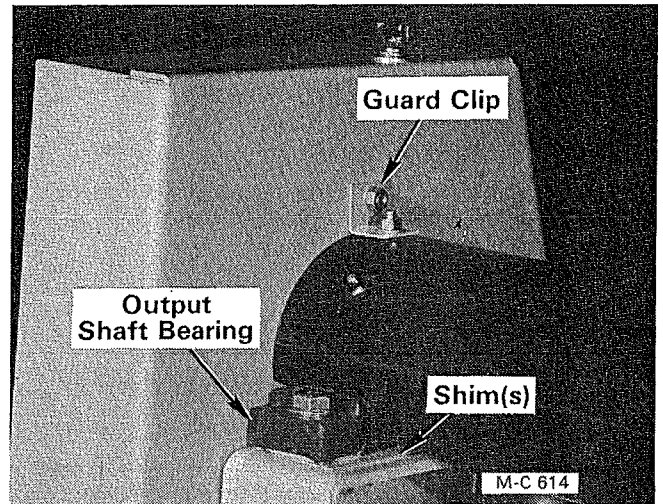
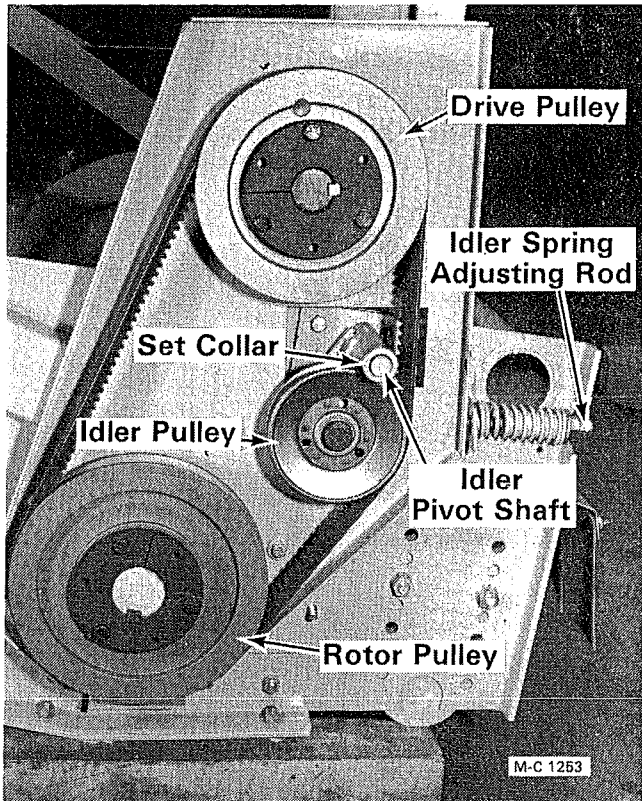

Figure 39
Figure 40 - TC Model Shown. On FM Models Rotor and Drive Pulleys Are Interchanged.
3. Remove the capscrew securing the output shaft guard clip to the belt guard back plate, see Figure 39. Remove the set collar on the end of the idler pivot shaft, see Figure 40.
12. Install and lock the set collar on the end of the idler pivot shaft, see Figure 40. Bolt the output shaft guard clip to the belt guard back plate, see Figure 39.